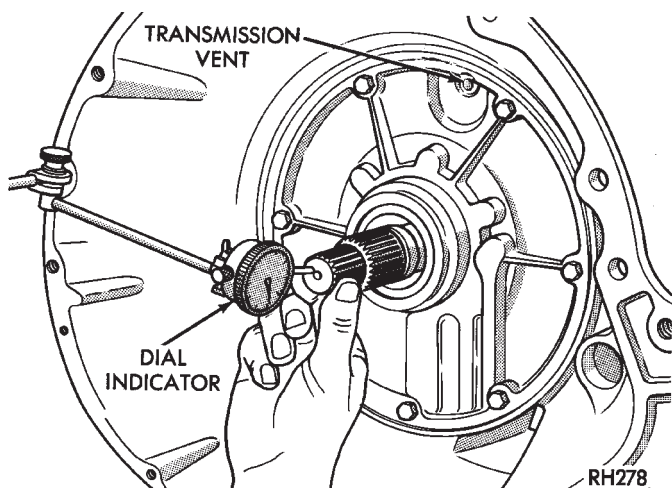

Fig. 169 Measuring Input Shaft End Play
(46) Lubricate intermediate shaft splines and bushing surfaces with transmission fluid or petroleum jelly.
(47) Install overdrive unit. Note that intermediate shaft is snug fit in overdrive planetary gear and overrunning clutch. If overdrive unit will not seat fully, use overdrive attaching bolts to draw gear case down and seat it against transmission.
(48) Apply 1-2 drops of Mopar thread adhesive (or Loctite 242) to overdrive unit attaching bolts. Then install and tighten bolts to 34 N•m (25 ft. lbs.) torque. **Be sure wire harness clips are placed on appropriate overdrive bolts beforehand.**
(49) Measure and if necessary, correct input shaft end play as follows (Fig. 169):